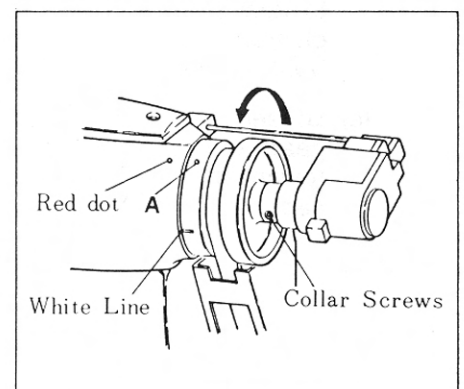

Figure 8
3. Needle Positioner (Figure 8)